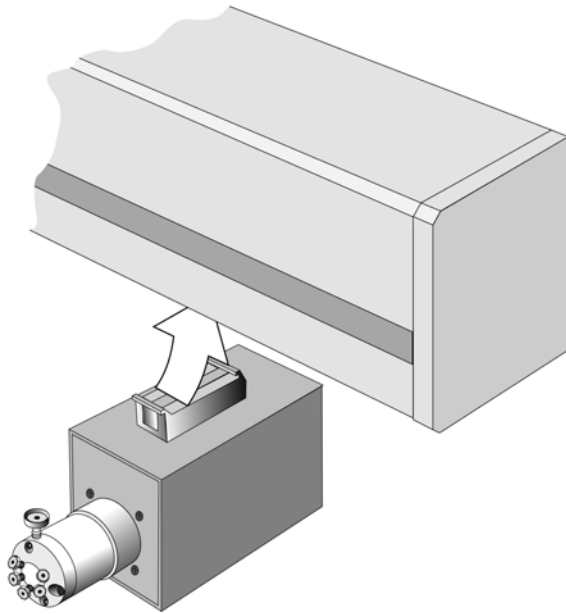

Figure 11. Installing the Injection Valve Drive
- 1 Locate the blue, valve drive. It will have one clamp that is identical to other object clamps. Loosen the clamp as above (see Figure 11).